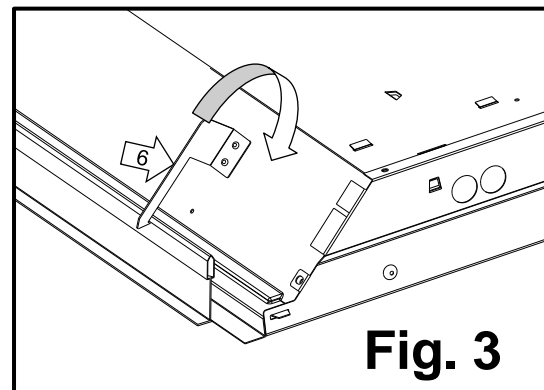

Fig. 3
6. From above the ceiling, secure troffer to T-Bar by bending built in **T-bar clips** (#6) on all four corners of fixture [Fig. 3].
8. Remove the **access plate** (#7) and locate **fixture supply wires** (1 black & 1 white) [Fig. 3 & 4].